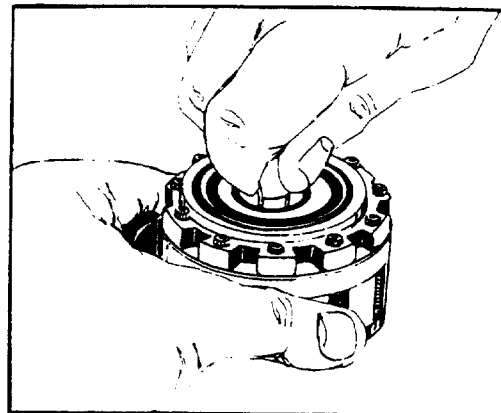

FIGURE 68.
21. Grasp the drive link (16) and rotate the metering package by hand to make sure the parts do not bind. The rotor (24) should orbit inside the stator (25). If they bind, disassemble the metering package, correct the cause, and repeat the assembly and concentricity procedures. See figure 68.